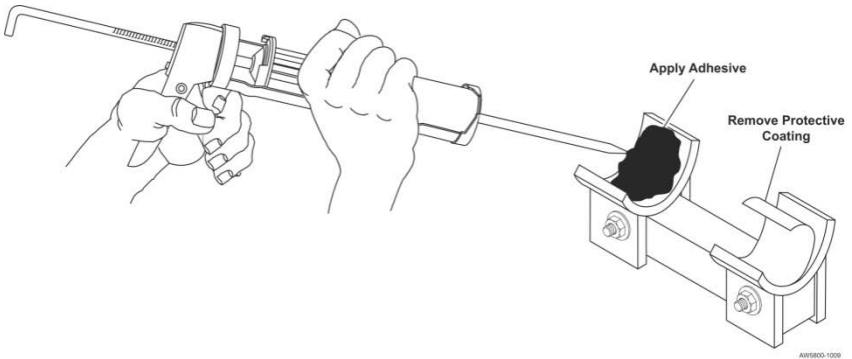

Figure 27. Applying Adhesive to Mounting Bracket
- D. Attach the mixing nozzle (350-0039-XXX). Following the adhesive manufacturer's instructions, apply the adhesive **liberally** to the bottom of the bracket assembly. See Figure 27.